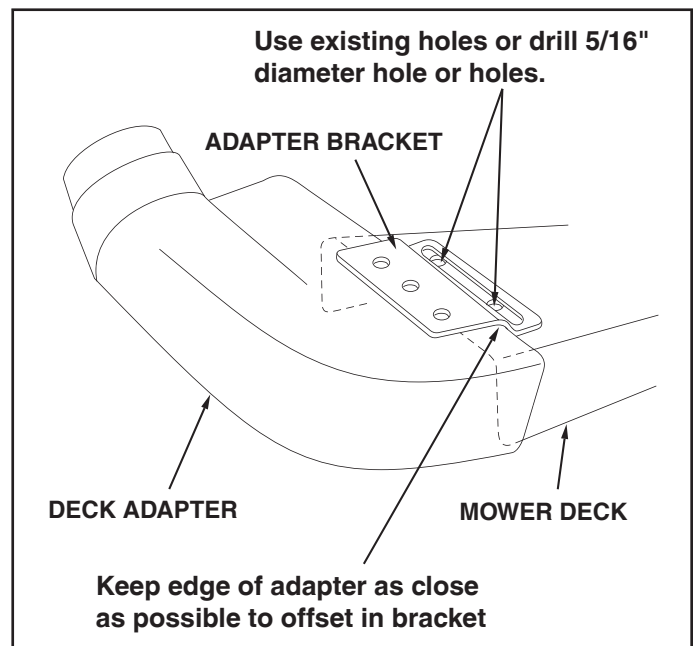

FIGURE 16
- Tie a knot in the end of each side of the rope to secure the rope in place. Keep knot loose. See figure 16.
6. Holding the adapter bracket and the deck adapter together, position the deck adapter on the mower deck. Keeping the edge of deck adapter as close as possible to the offset in the adapter bracket, see if the slot in the adapter bracket can be aligned with one or two of the deflector holes in your mower deck's discharge opening. If the bracket can not be located correctly using existing holes, it will be necessary to drill one or two 5/16" diameter holes in the deck. See figure 16.